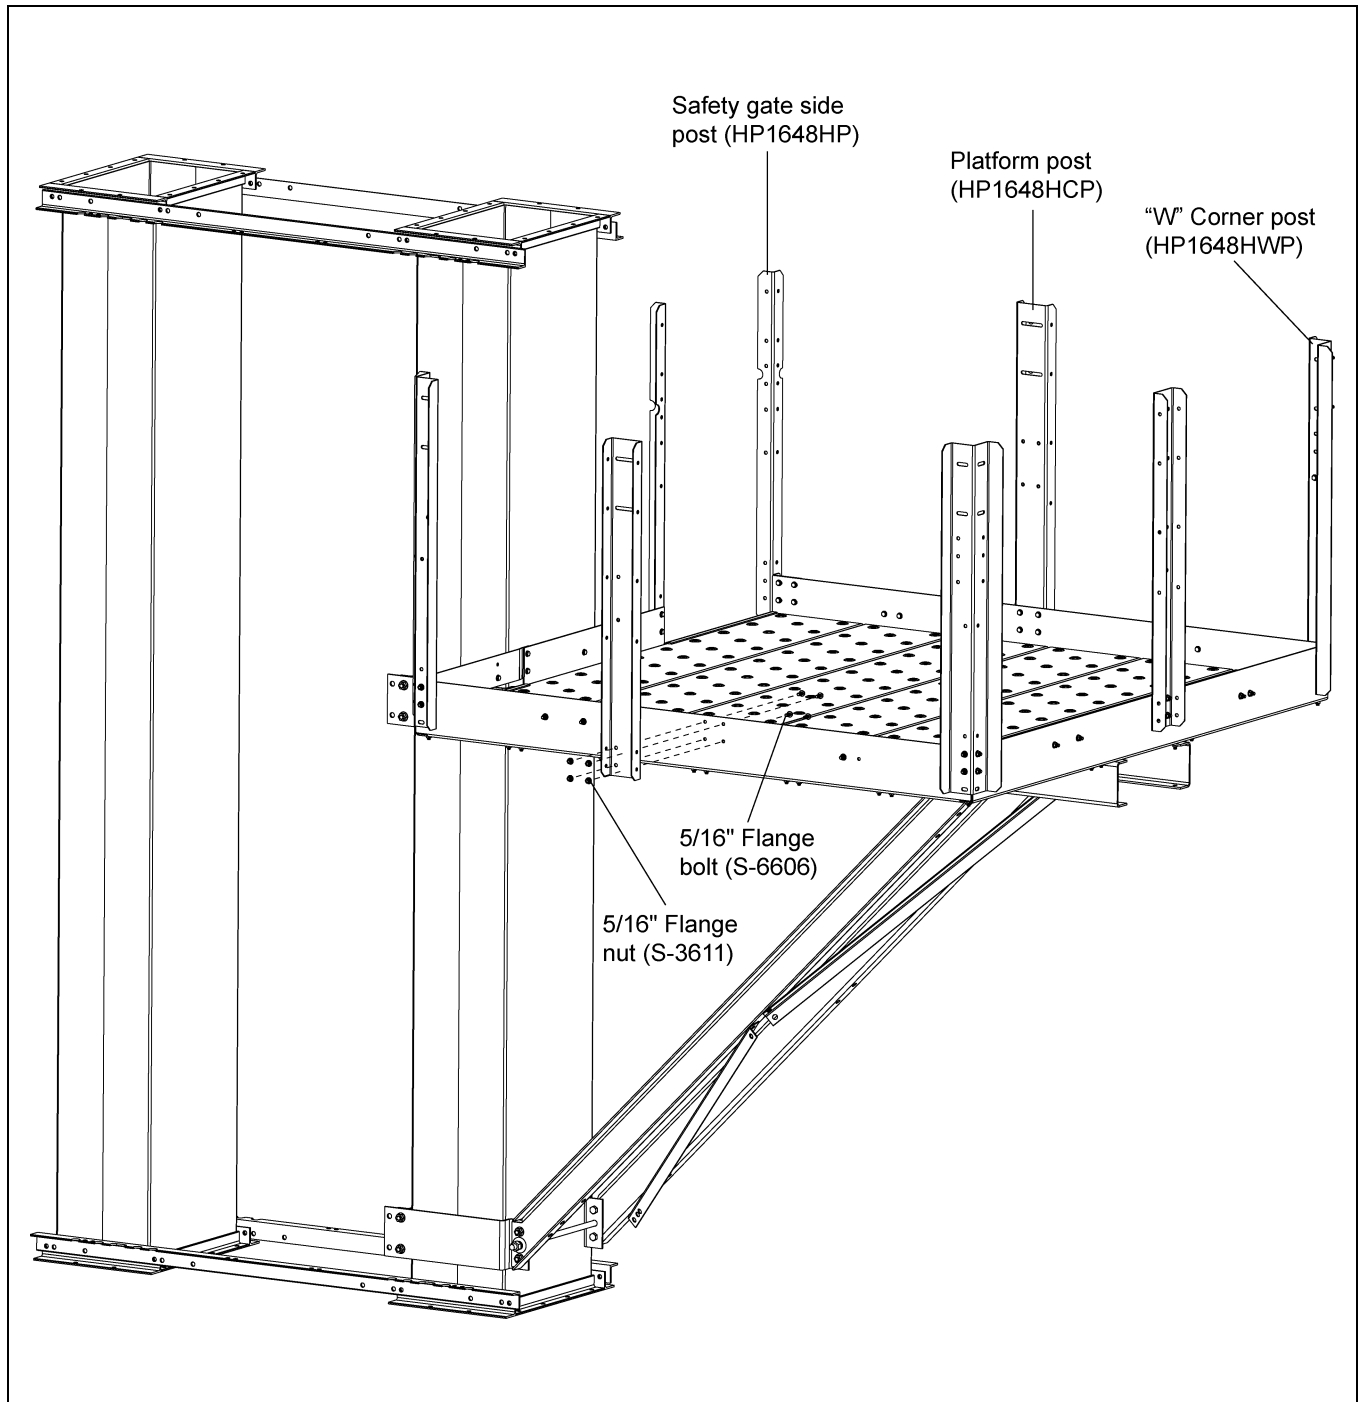

Figure 13H
Figure 13H shows the assembly of three (3) "W" corner posts (HP1648HWP), three (3) platform posts (HP1648HCP) and two (2) safety gate side posts (HP1648HP). This must all be assembled using 5/16" hardware.